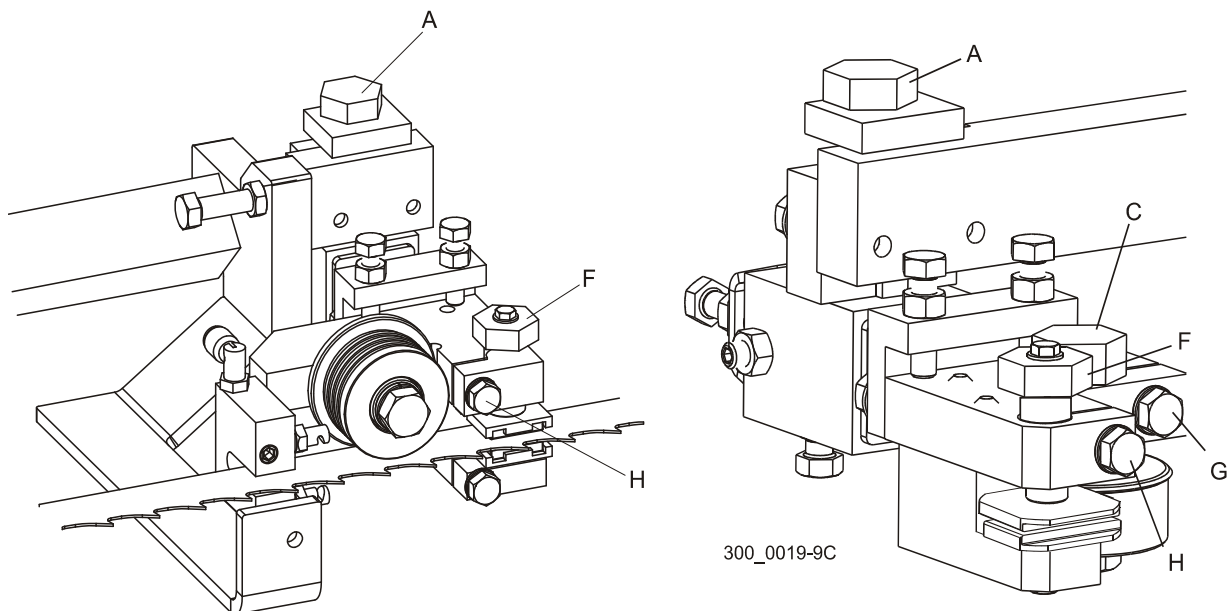

**FIG. 7-2**
**See Figure 7-2.** To level the bed in the width direction, place two pieces of straight tubing between the front two bed rail supports. Place a level across both tubes, near the front bed rail ('A'). Adjust the outer front leg to level the bed. Move the level to the other end of the tubes ('B') and use the second outer leg to adjust level. Move the straight tubes to the rear two bed rail supports and adjust the two outer rear legs until the bed is level.